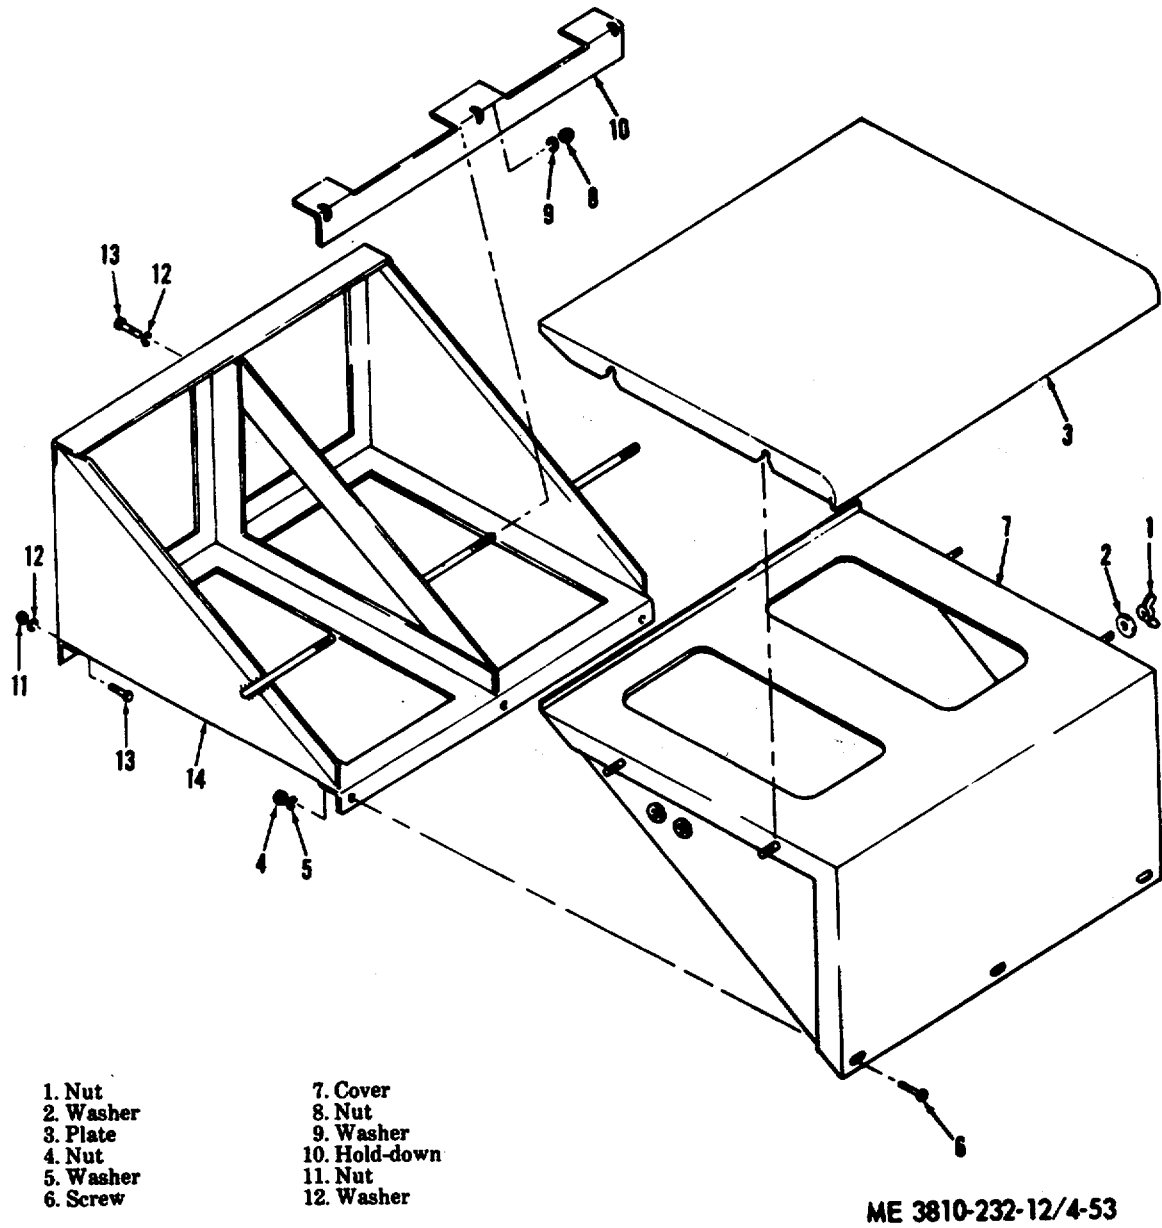

Figure 4-48. Crane engine coolant hoses, lines and fittings, removal and installation.
(1) Drain the cooling system (para 3-21).
(2) Remove hoses, lines, and fittings as illustrated in figure 4-48.
- d. *Installation.* Install the hoses, lines, and fittings as illustrated in figure 4-48.